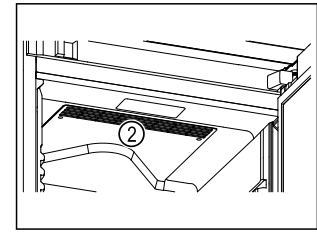

Fig. 62
- ☐ Ventilation slots Fig. 62 (2) for recirculation fan in the interior must be kept clear.